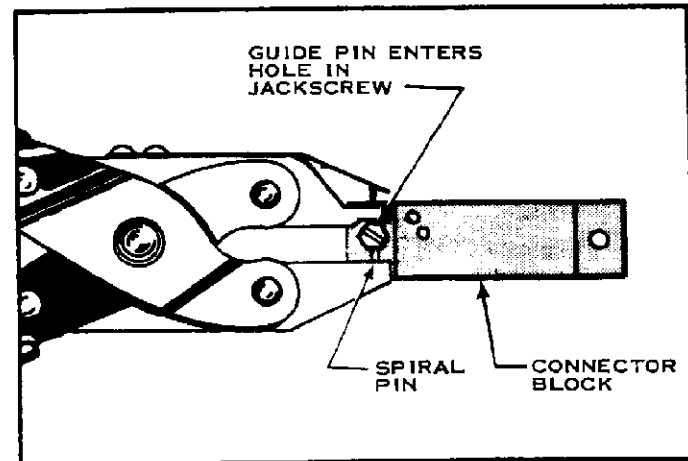

Fig. 3
- Grasp Jackscrew with Tool so that Guide Pin in Upper Jaw of Tool fits into hole in Jackscrew. See Figure 3.